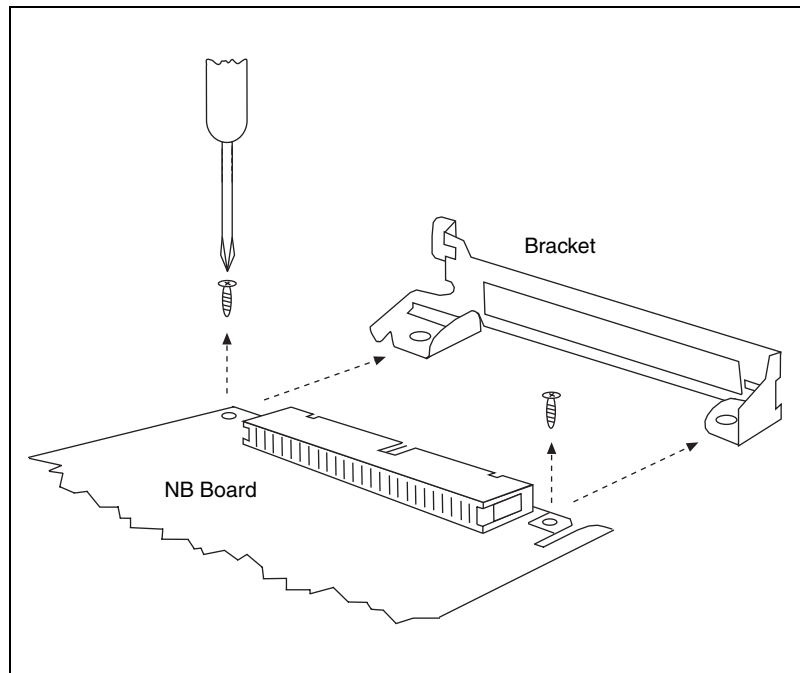
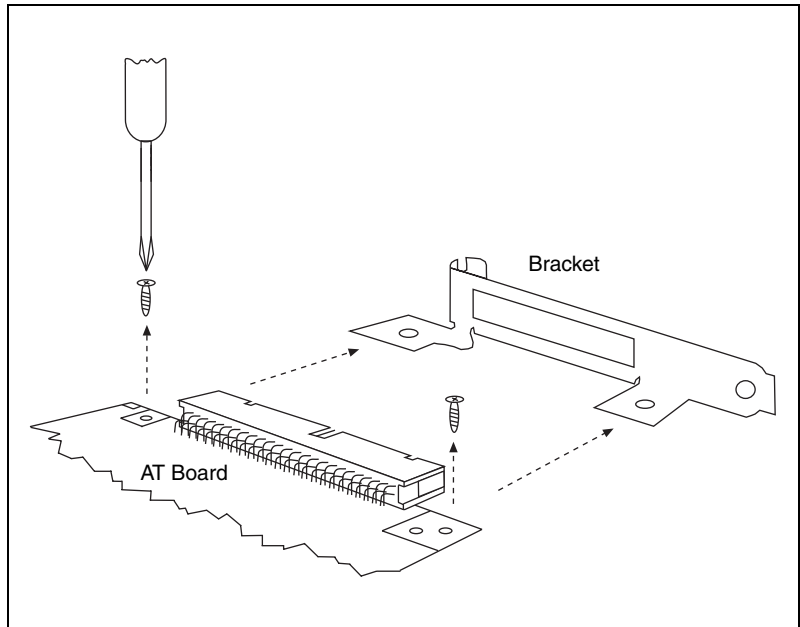

Figure 1. Removing the Bracket from an NB Board
Figure 2. Removing the Bracket from an AT Board
4. Remove the bracket from the board. See Figure 1 for NB board bracket removal or Figure 2 for AT board bracket removal.